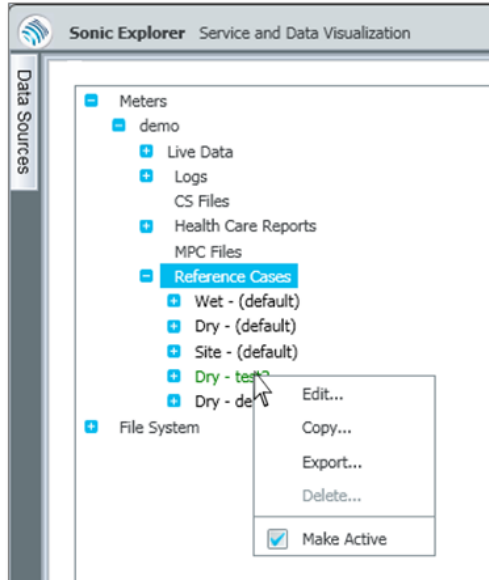

Figure 17-3 Editing a reference case
- ▶ Click **Reference Cases** and right-click on the desired reference case (**wet, dry, site**, etc.). A menu will be opened, as seen in Figure 17-3.
By clicking on **Edit** in the small drop down menu (seen in Figure 17-3) you can check the limits of that specific reference case which is described in ⇒ section 17.2 Change Limits in a Reference Case (p.55). If there are currently no reference cases suitable for your needs, it is possible to create a new one with live data from the meter. This process will be described in ⇒ section 17.3 Create a New Reference Case (p.56).
- ▶ Click on the **Data Sources** tab, followed by **Meters → Reference Cases → <desired case>** and **Edit**. (See Figure 17-3)